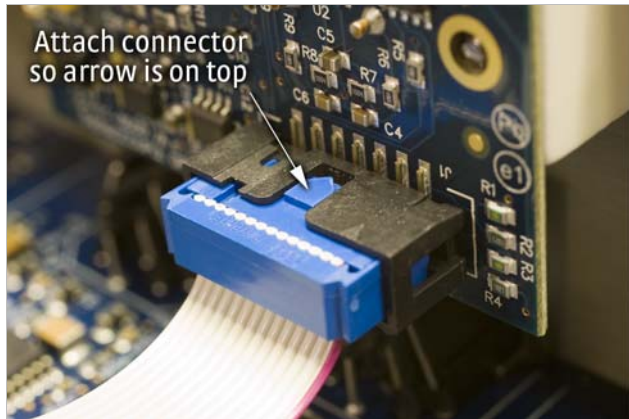

FIGURE 7-4 Proper orientation of the ribbon cable connector plug
8. Place the option card into its position in the rear panel from inside the instrument. Orient the card so that the 14-pin ribbon cable connector is toward the bottom of the instrument, closest to the main circuit board (FIGURE 7-4).
12. *This step is not applicable to the 3062 option card.* Insert the 14-pin ribbon cable connector plug into the socket on the option board. Orient the ribbon cable connector plug so that the arrow nub slides into the plug slot, and the ribbon cable exits downward (FIGURE 7-4).